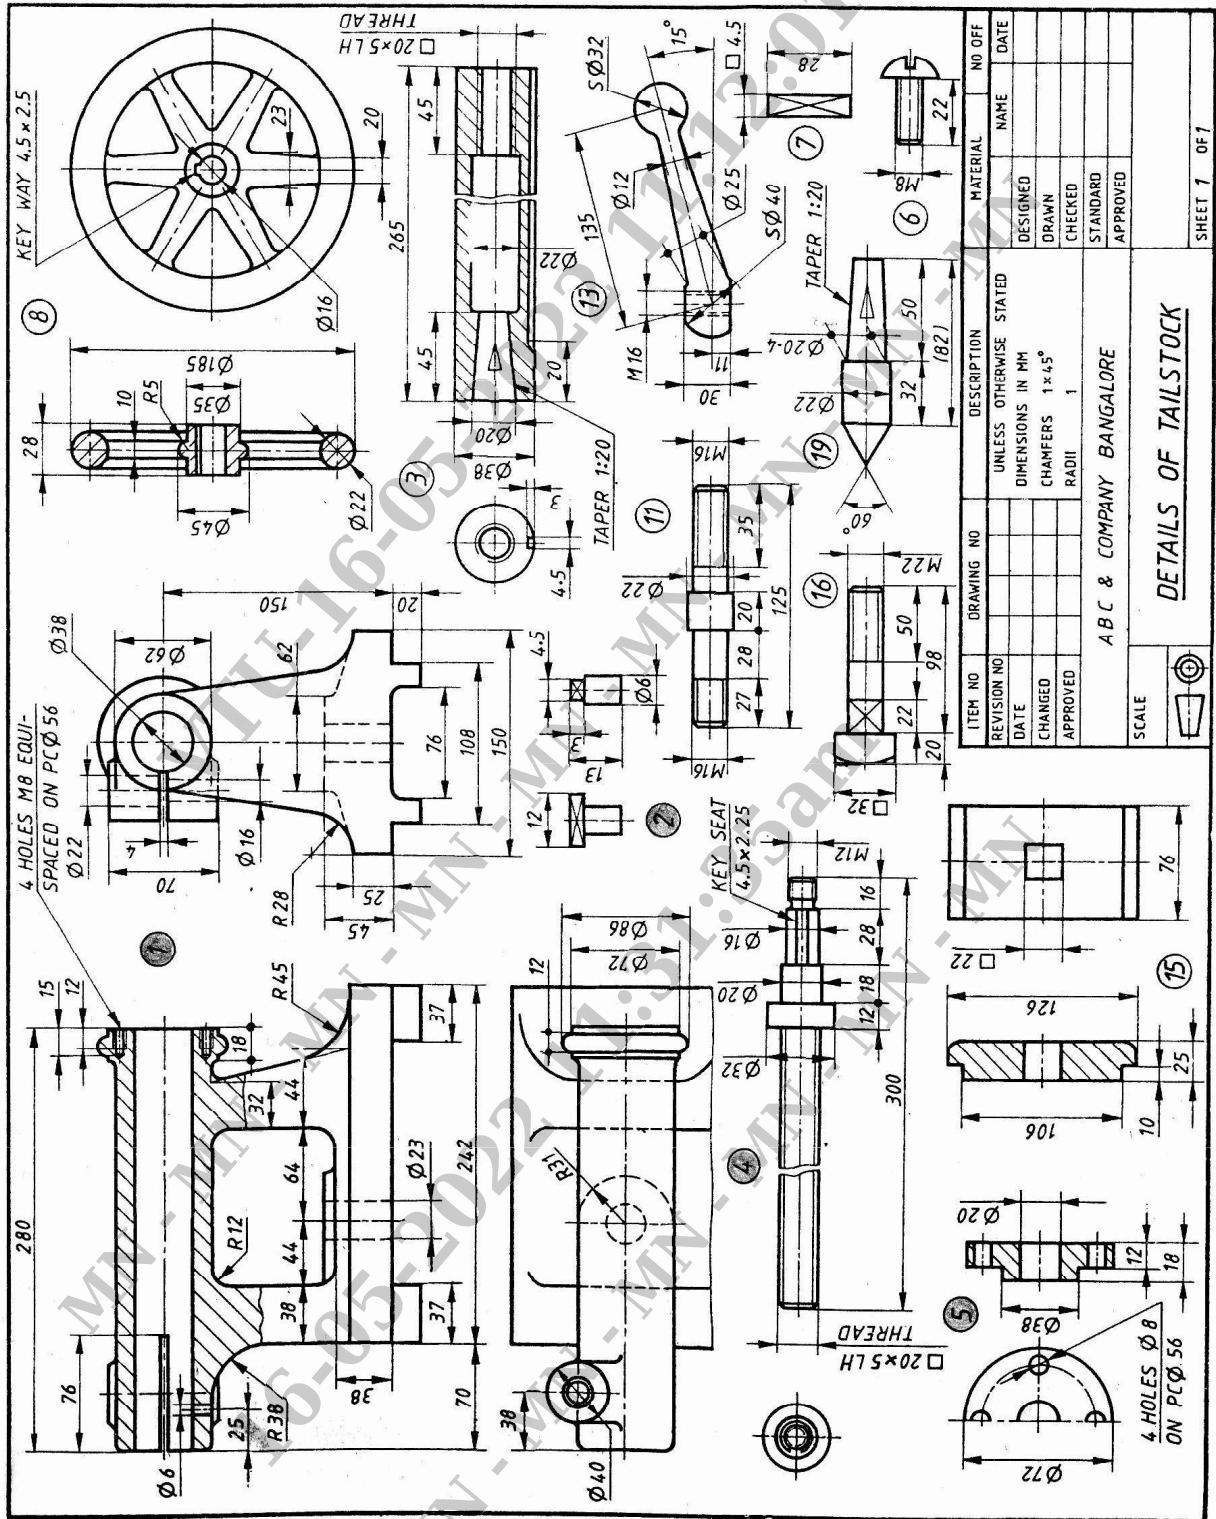

Figure 2: Details of tailstock
5. Figure 2 shows the details of a screw jack. Assemble the parts of the screw jack and show the following views.
6. Figure 2 shows the part drawing of a tail stock. Assemble the tail stock and show the following views.
6. Figure 2 shows the part drawing of a “TAIL-STOCK”. Assemble the Parts and show the following views.